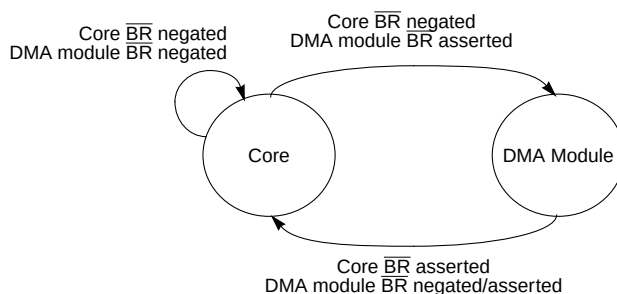

**Figure 6-11. Park on Master Core Priority (PARK = 01)**
- Park on master core priority (PARK = 01)—The core retains bus mastership as long as it needs it. After it negates its internal bus request, the core does not have to rearbitrate for the bus unless the DMA module has requested the bus when it is idle. The DMA module can be granted bus mastership only when the core is not asserting its bus request. See Figure 6-11.